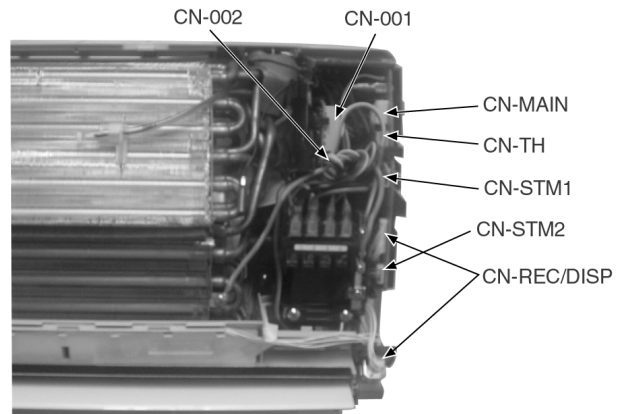

Fig. 4
- Release the CN-REC/DISP connectors. (Fig. 4)
- Release the CN-TH connector. (Fig. 4)
- Release the CN-MAIN connector. (Fig. 4)
- Release the CN-001 connector. (Fig. 4)
- Release the CN-002 connector. (Fig. 4)
- Release the CN-STM1 connector. (Fig. 4)
- Release the CN-STM2 connector. (Fig. 4)